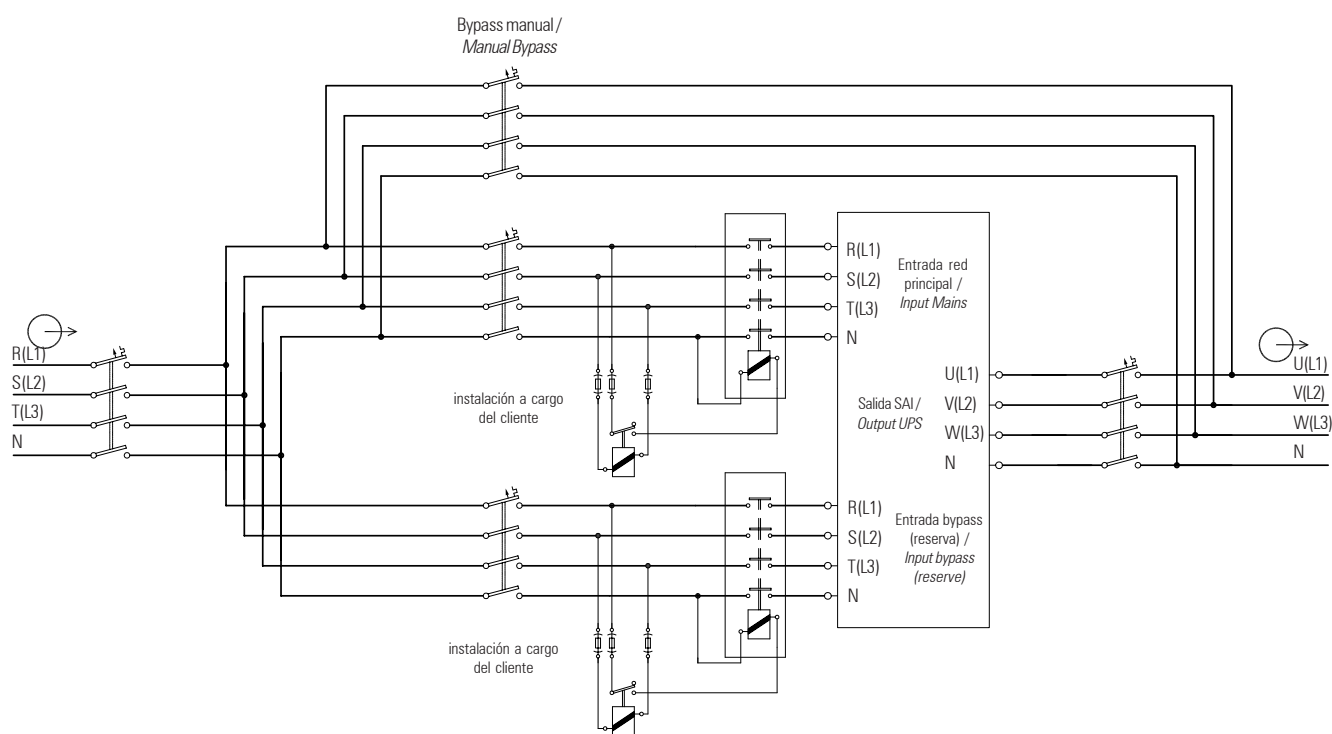
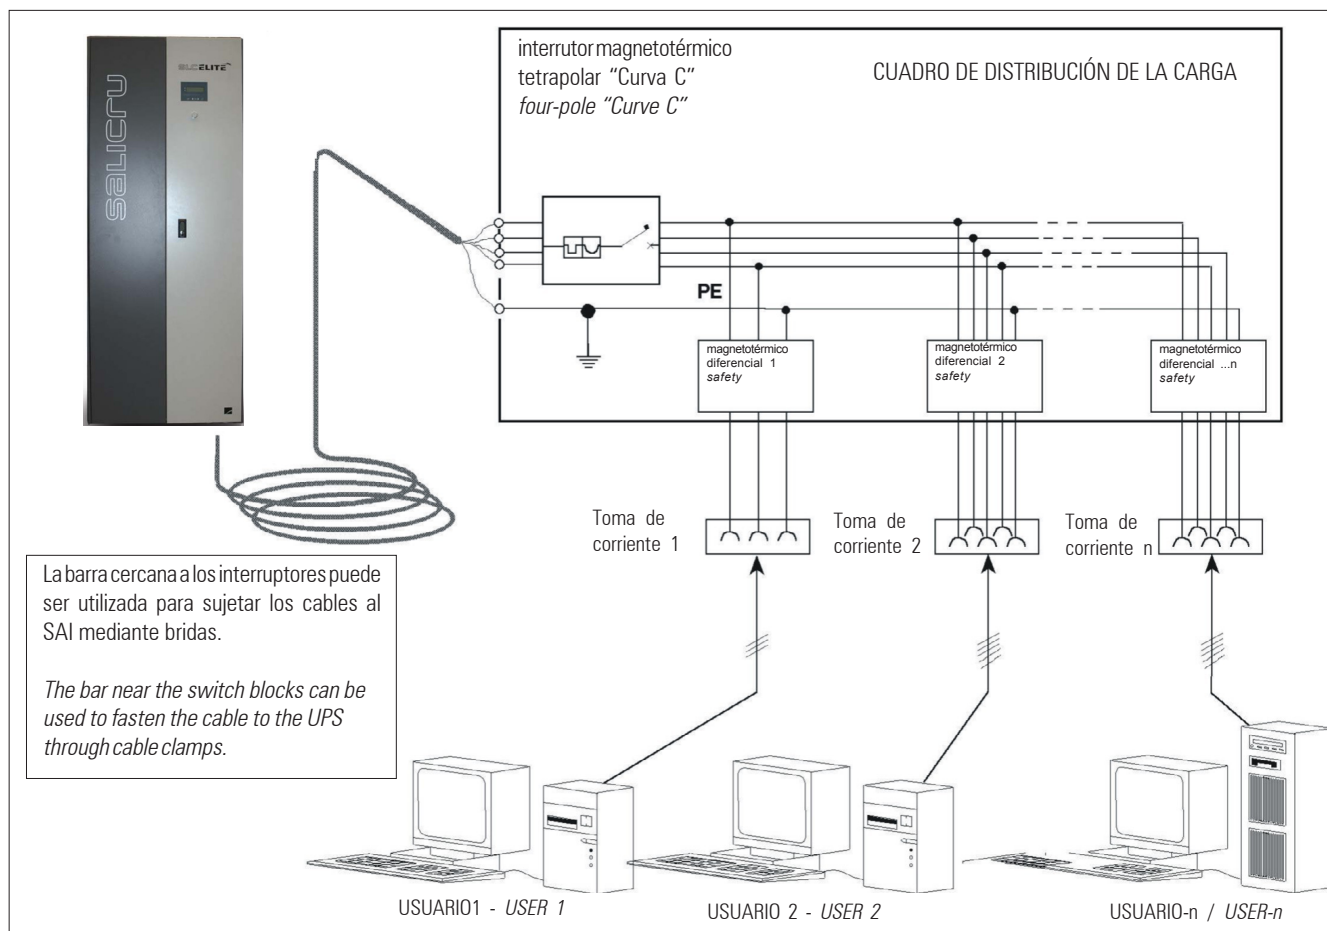

Fig. 2.3 - Cableado de conexión / Wiring connections
Fig. 2.5 - Cuadro de distribución de la carga / Load distribution Panel
The wiring connections to be executed are shown in the figure 2.3.
Se aconseja instalar un magnetotérmico tetrapolar de "Curva C" en la salida del SAI (ver fig. 2.3 y fig. 2.5).
Its suggested to connect a four-pole "Curve C" magnetothermic switch at the output of the UPS (see Fig. 2.3 and Fig. 2.5).
- 2) *Terminate one end of the cable to the N.C. pins of a fire preventing button (Fig. 2.5).*
- 3) *connect the other end of the cable to Relay card (Fig. 2.5).*